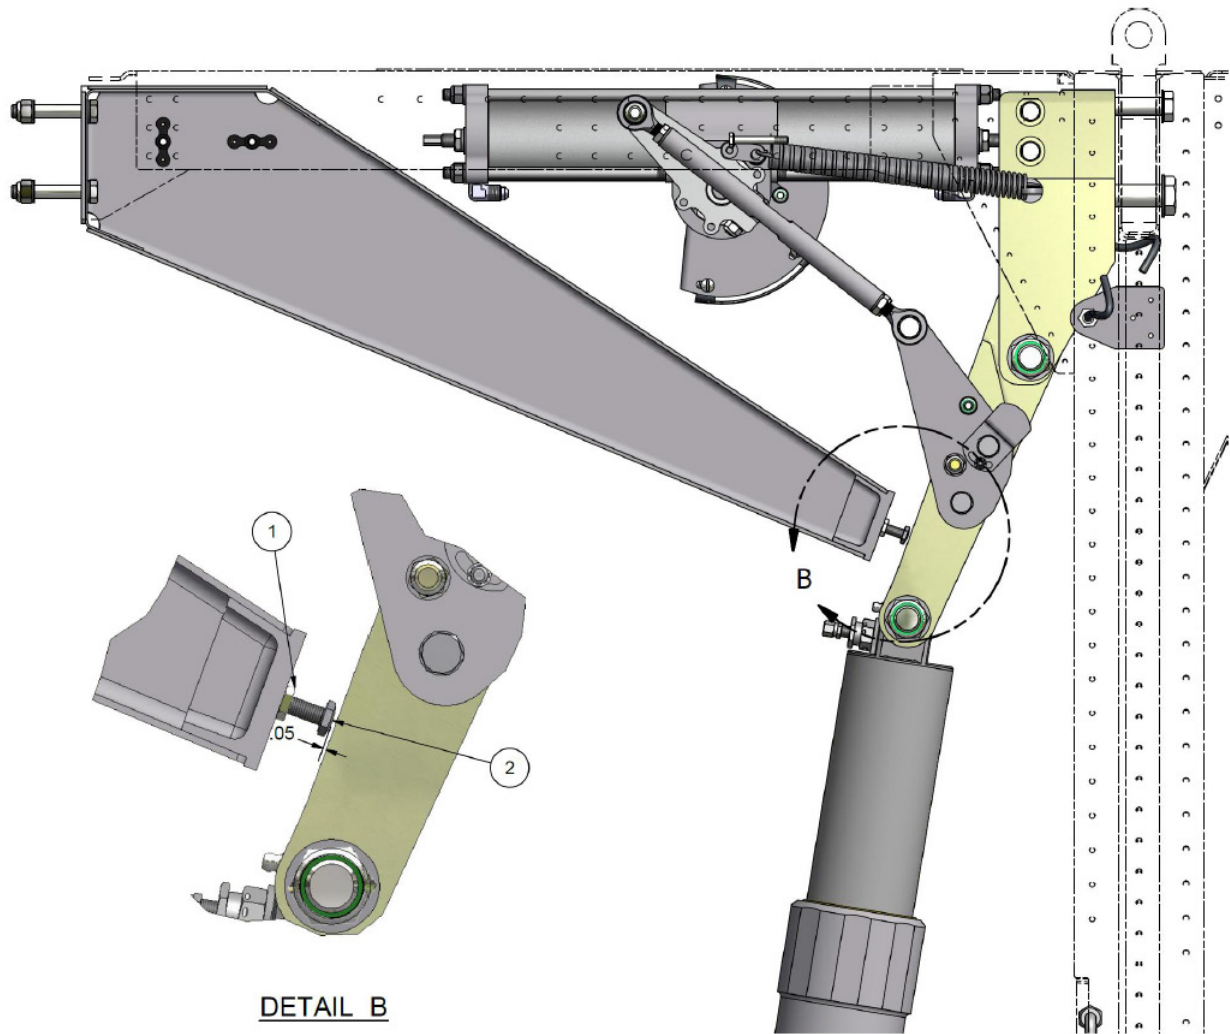

FIGURE 4-6: MAIN GEAR DOWN STOP ADJ.
30. Loosen the (Fig 4-6, Item 1) jam nut on the Main Gear Down Stop Assembly, and screw in the NAS-428 adjustment bolt (Fig 4-6, Item 2). Verify the bolt does not touch the Top Arm when gear is in the down position. When the aircraft is off the jack stands and the weight of the aircraft fully on the wheels, adjust the NAS-428 bolt